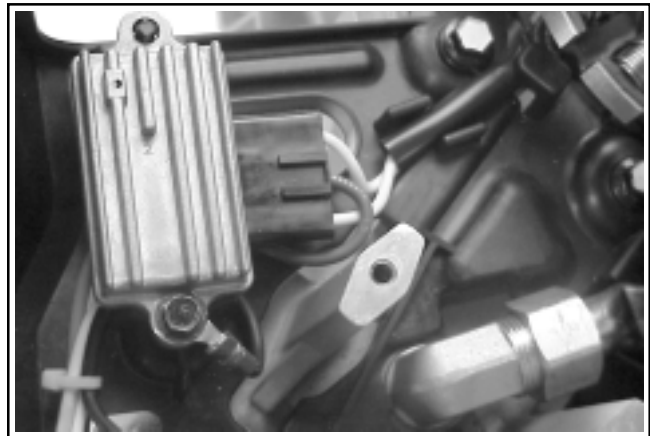

Figure 11-72. Installed Rectifier-Regulator and Wire Routing.
- Position the stator leads under the retaining tab, and down within the “channel” formed by the two raised ribs in the blower housing. See Figure 11-72.